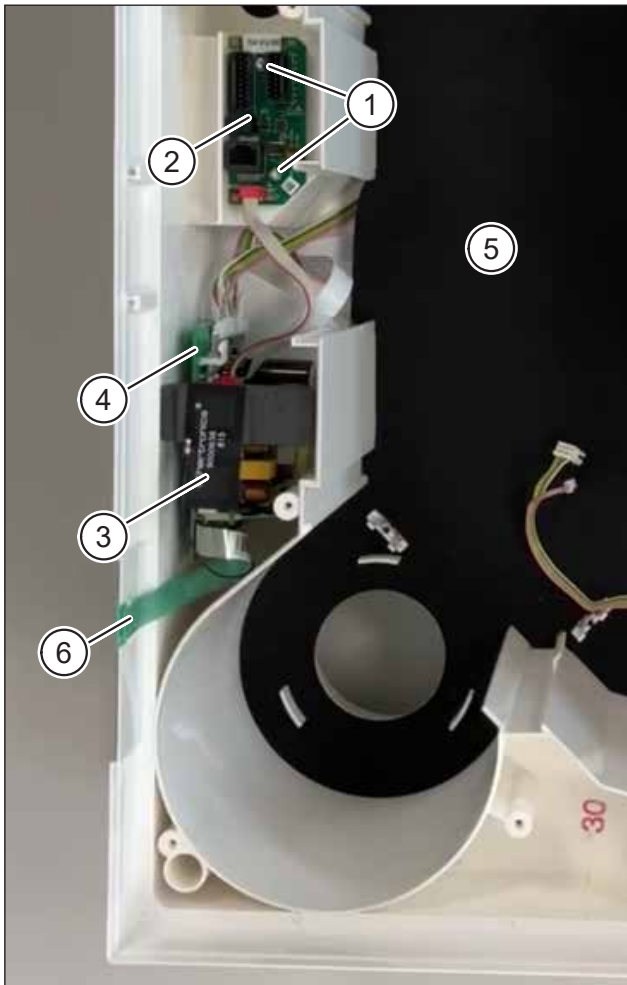

Fig. 7: Remove the interface and control PCBs
- ▶ Loosen the two Torx screws TX10 (item 1 in Fig. 7) on the interface PCB (item 2 in Fig. 7).
- ▶ Lift the antenna holder (item 3 in Fig. 7) with the film antenna and control PCB (item 4 in Fig. 7) up and out.
- ▶ Remove the black housing internal seal (item 5 in Fig. 7) that fully covers the base of the housing.
- ▶ Detach the membrane keypad (item 6 in Fig. 7) on the side of the housing.